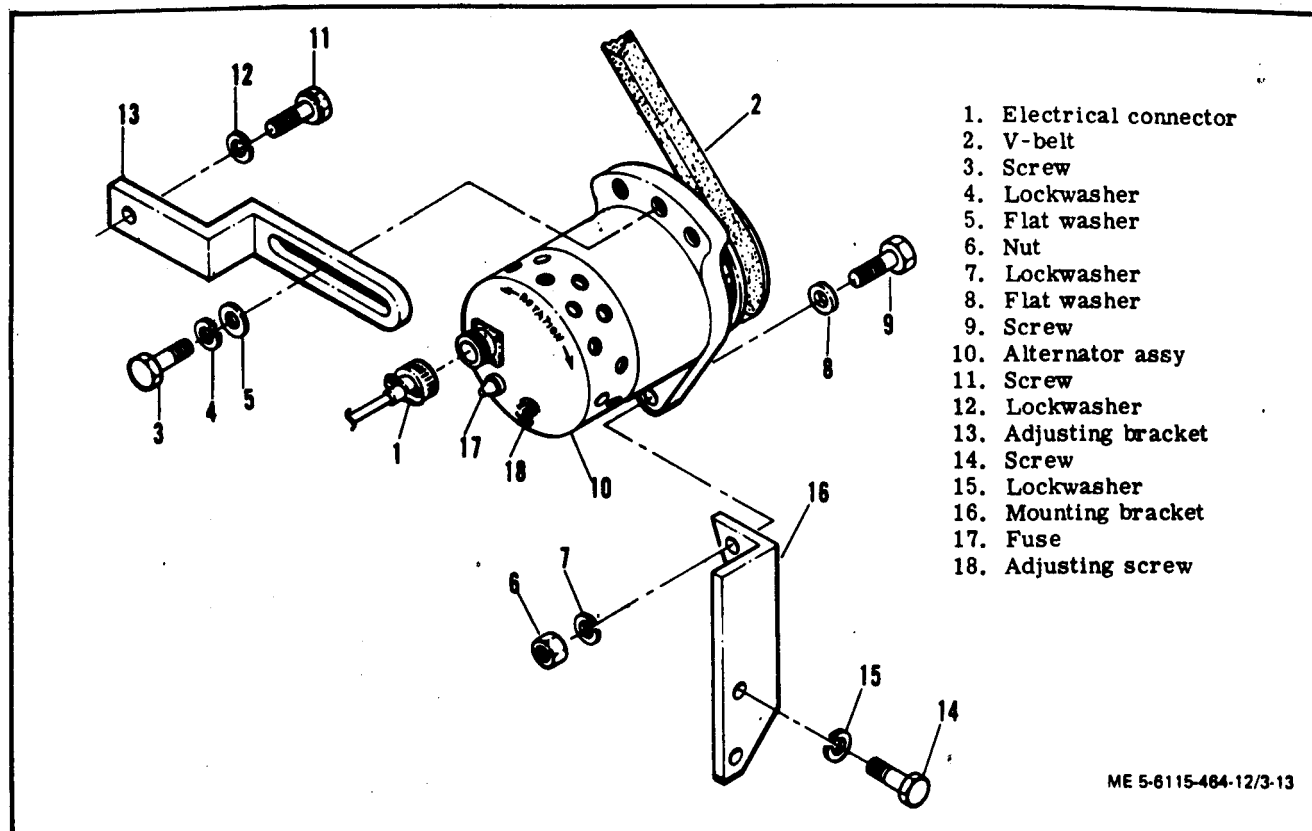

Figure 3-13. Battery Charging Alternator Removal and Installation
(1) Disconnect electrical connector (1, figure 3-13).
(2) Loosen alternator mounting hardware and remove v-belt (2).
(3) Remove screw (3), lockwasher (4), and flat washer (5).
(4) Remove nut (6), lockwasher (7), flat washer (8) and screw (9) to remove alternator assembly (10).
(5) Do not remove screws (11 and 14), lockwashers (12 and 15), adjusting bracket (13) and mounting bracket (16) unless inspection reveals damage.